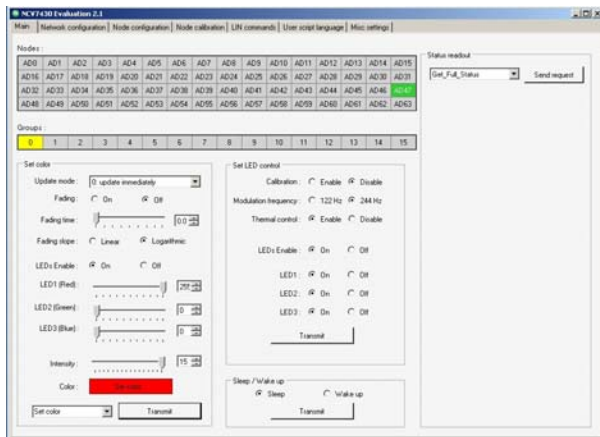

Figure 14. Select AD47 and Turn Device On
10. Select the device (AD47) and turn the device on (see Figure 14).